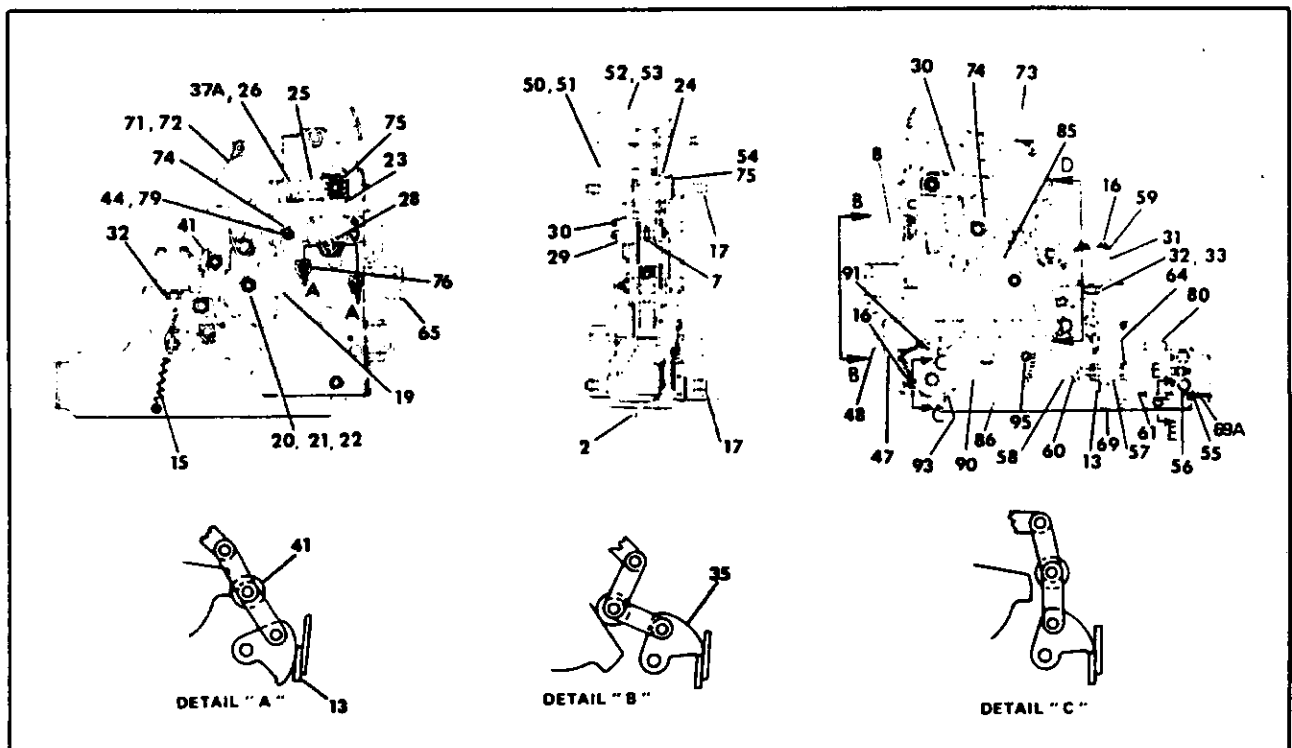

Figure 1. LAF & LA-600B, LA-800A and LA-1600B Operator
A. MANUALLY OPERATED BREAKERS (Refer To Fig. 1 & Table 3)
B. ELECTRICALLY OPERATED CIRCUIT BREAKER (Refer to Fig. 1 & Table 4)